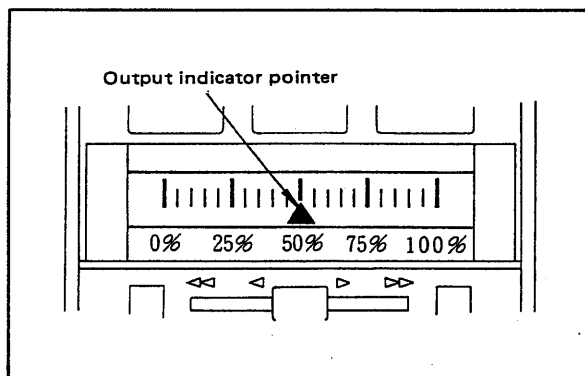

Figure 6-2-3. Output Indicator Center Scale Mark.
- (2) Make sure that the output indicating pointer is just on the thick center scale mark. The tolerance is $\pm 2.5\%$ (Equivalent to 1/2 of a scale division.) (See Figure 6-2-3.)